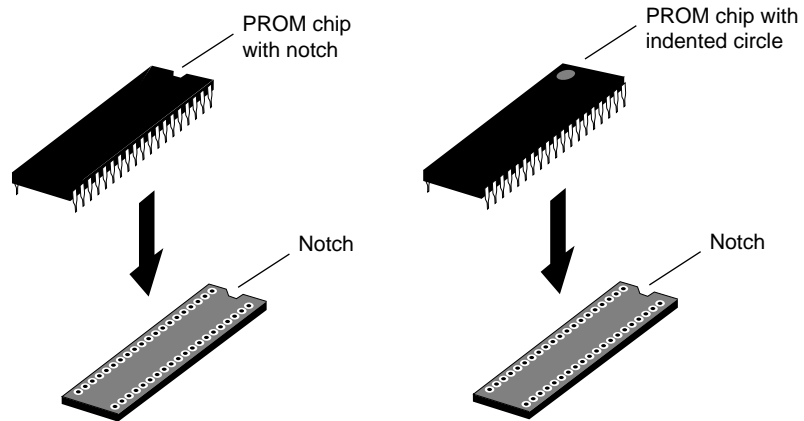

Figure 14 Lining up the PROM chip
- Grasp the new PROM chip. Orient the PROM above the socket on the system board so the end with the semi-circular notch or small, indented circle on the PROM chip lines up with the notch in the socket, as shown in Figure 14.